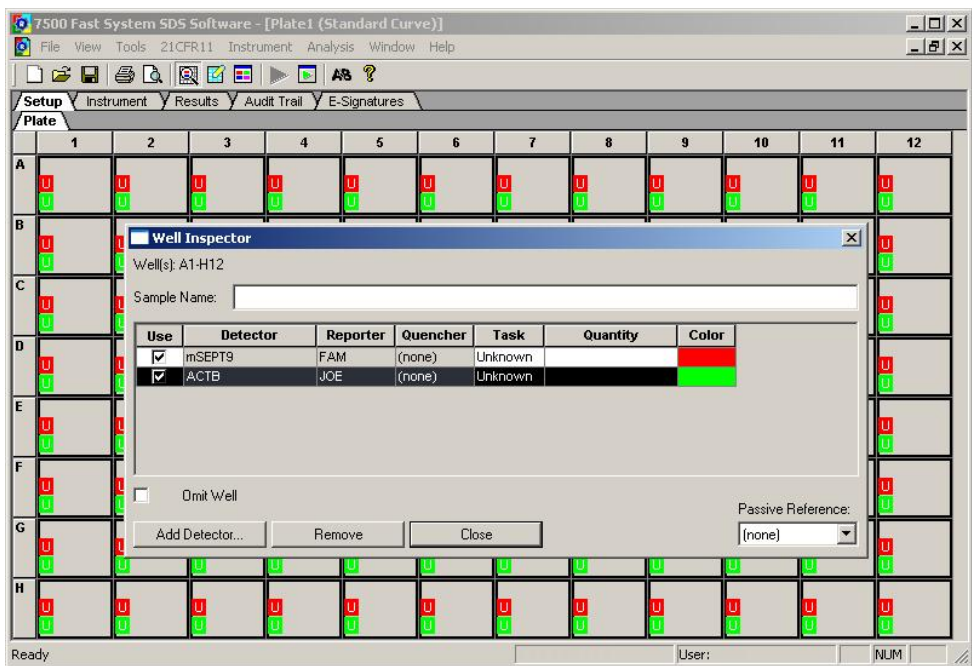

Figure 1: Screenshot from SDS v1.4 software after confirming settings in the 'Well Inspector' window.
- Check the Passive Reference setting to be “(none)” (see Figure 1).